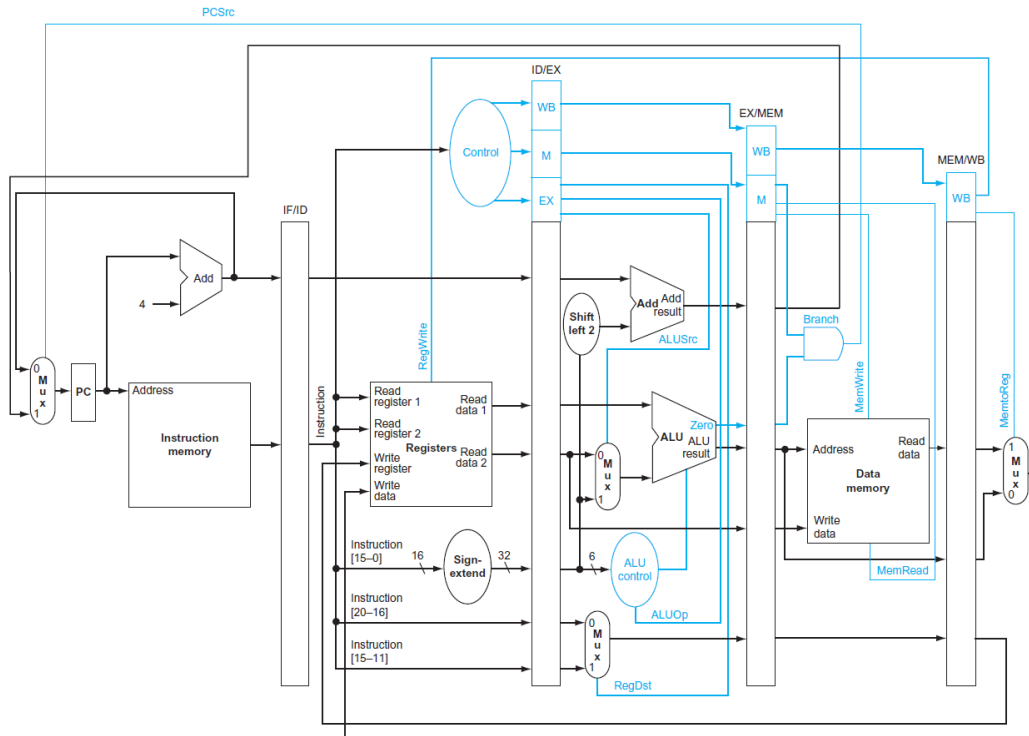

Figure 2. Simple Pipelined Architecture (Required to get full credit)
4. To implement the pipelined architecture leveraging the single cycle processor design without the forwarding unit and hazard unit (Figure 2).
6. For Figure 2 you need to implement the additional registers and hold the control signals in these registers as well.